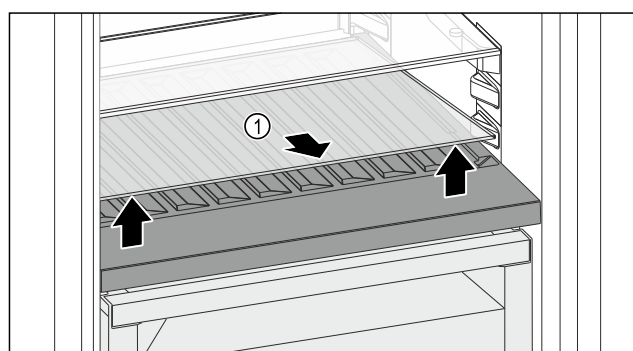

Fig. 108
- Lift the glass shelf Fig. 108 (1) in the front at the recess and pull it out.
- Store the glass shelf Fig. 108 (1) somewhere safe outside of the appliance.